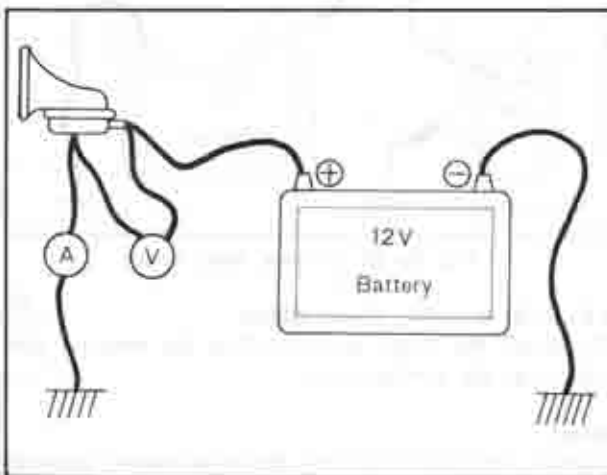

Fig. 15-38 Adjusting horn
2. Connect the ammeter and volt-meter as shown in Fig. 15-38. Turn the adjusting screw until the current draw is 1.5 ~ 2.5 amperes at 12 volts.